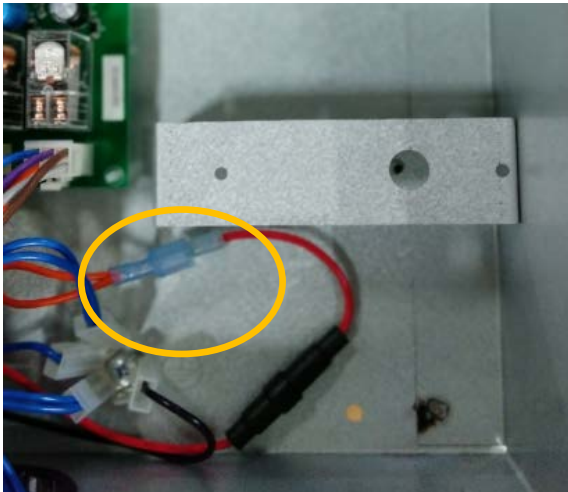

Figure 12
9. Disconnect the connector from the 3A fuse. Remove the wires out from the j-box housing through the panel bush. Refer Figure 12.